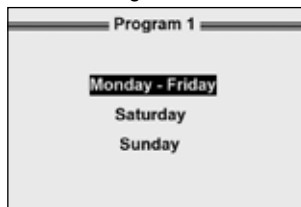

Figure 16.
- c) Use the ▲ or ▼ button to select Monday-Friday, Saturday or Sunday program (Figure 16). Then press ✓ button to enter into its sub menu.